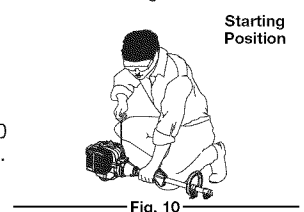

Fig. 10
**WARNING:** Avoid accidental starting. Make sure to be in the starting position when pulling the starter rope (Fig. 10). To avoid serious injury, the operator and unit must be in a stable position while starting.
5. Crouch in the starting position (Fig. 10). Do not squeeze the throttle. Pull the starter rope in a controlled motion until the unit starts.